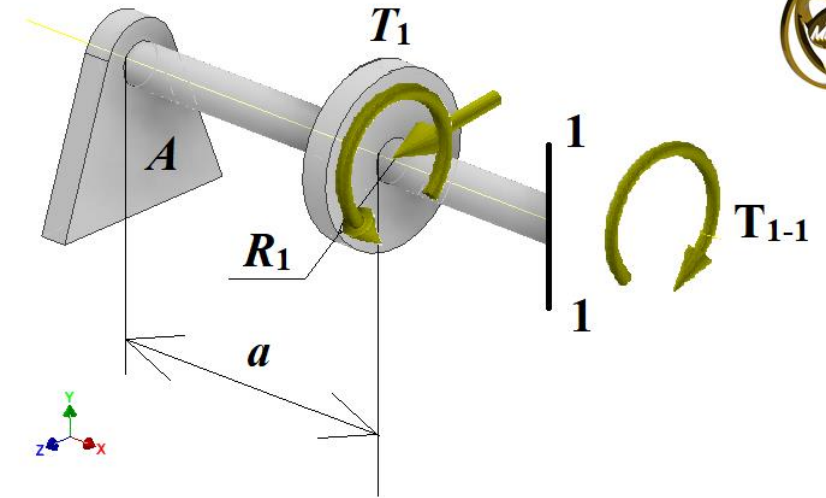

Fig. 3 – Section 1-1
3. Determine internal torques in all shaft sections. Torques in sections with **lengths a and d are 0**. Create free-body diagrams (**Figs. 3, 4**) for sections 1-1 and 2-2. Analyze their equilibrium.